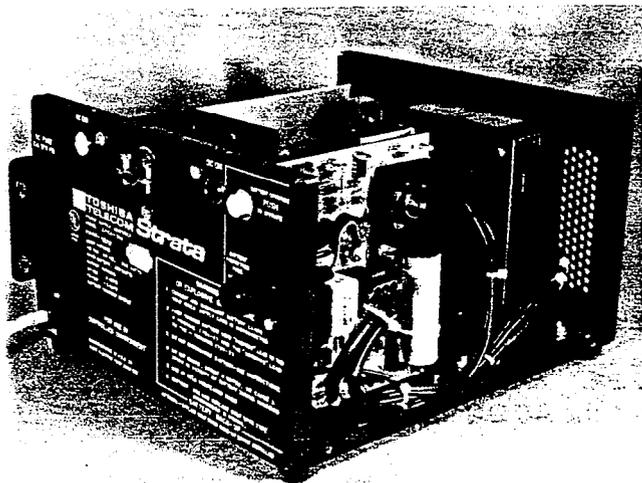

FIGURE 11—PBBU IN PLACE
02.22 Unwrap the PBBU. Remove and save the screw located in the mounting bracket (Figure 11).
02.23 Slip the PBBU fuse holder and battery override button through their respective ports in the control panel (Figure 11). The PBBU mounting bracket should be flush against the rear of the control panel. The harness should flow around the PBBU PCB, with no wires beneath it.
02.25 Use the previously removed screw and secure the mounting bracket to the control panel (Figure 11).
02.28 Depress the battery override button (Figure 11). If it catches and stays in, press it again to cause it to release and protrude out of the control panel. The button must be out for the EPSA to operate normally.